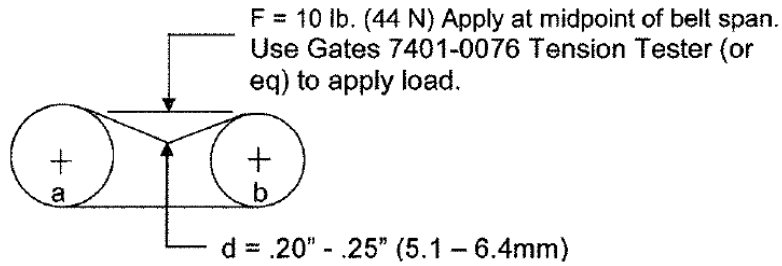

Figure 7-5 – Flat Belt Adjustment Value
- b. Apply appropriate force as per Figures 7-5 or 7-6 depending on belt configuration using a tension tester midpoint of belt span between the compressor pulley and the drive pulley.
- c. Deviation should be as per Figures 7-5 or 7-6 depending on belt configuration.